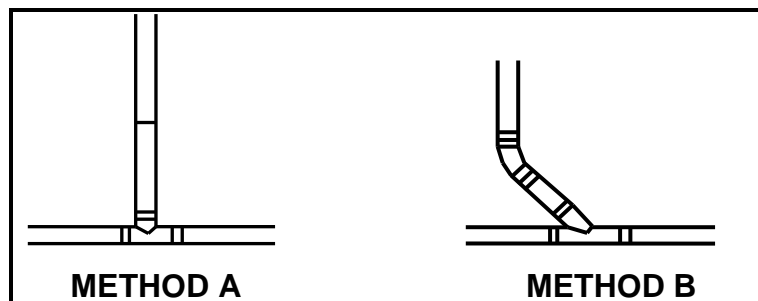

FIGURE 3.4
- 3.4 FIGURE 3.4 below shows two methods used for the connection of sewerage pipes. Study the drawing and answer the questions that follow.